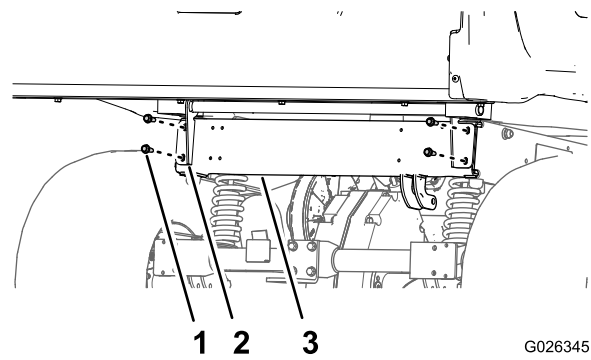

Figure 19
7. Carefully lower the cargo box until the holes in the pivot brackets align with the mounting holes for the cargo box in the rear-frame channel (Figure 19).
8. Attach the pivot brackets to the rear-frame channel with the 4 flanged-head bolts (3/8 x 1 inch) that you removed in step 8 of Machines with a Manual Cargo-box Lift (page 3); refer to Figure 19.